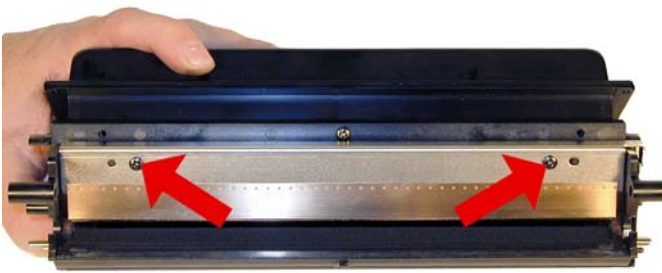

Figure 40
36) Remove the 2 screws and the doctor blade. See **Figure 40**